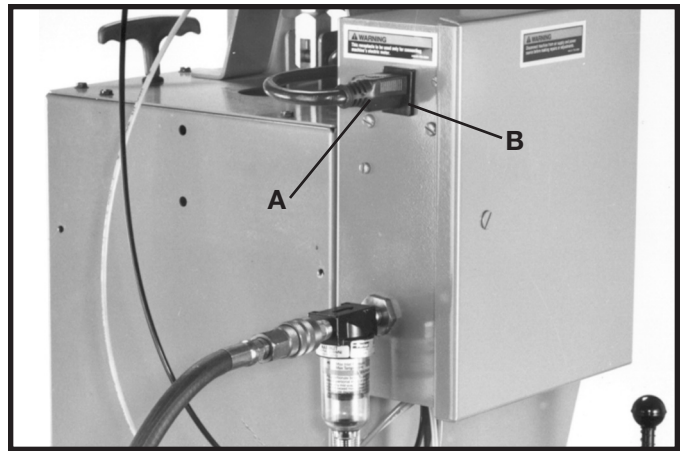

Fig. 46
1. Plug the motor cord (A) Fig. 46, into outlet (B) located on rear of the air and electric control box as shown.
⚠ CAUTION DO NOT USE THIS RECEPTACLE OUTLET (B) FIG. 46, FOR ANY OTHER ELECTRICAL USE OTHER THAN THE UNIT MOTOR.